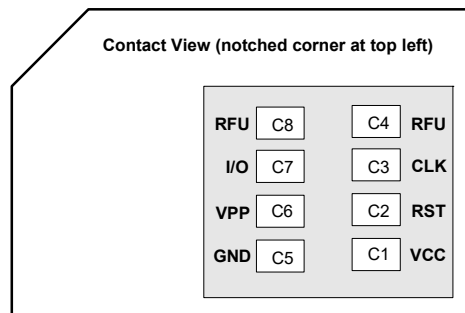

Figure 3-6: SIM Card Contacts (Contact View)
a. See Figure 3-6 on page 29 for SIM card contacts.